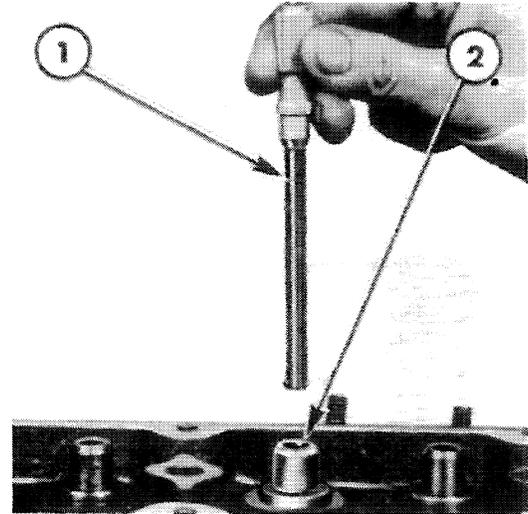

Figure 14
8. Using a telescopic gauge and micrometer, measure the valve to guide clearance, Figure 14. If the clearance exceeds the specified limits, see "Specifications"—Chapter 4, ream the valve guide to fit the next oversize valve.